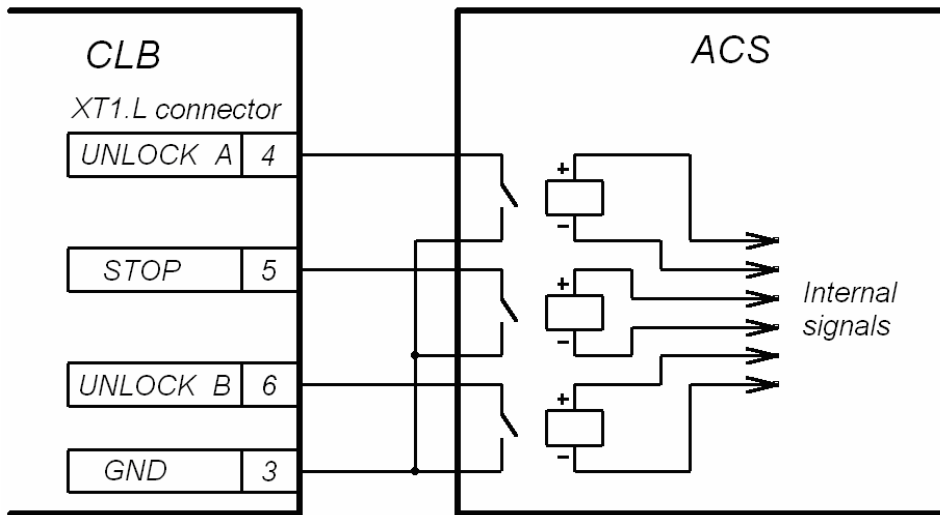

Fig. 5. Control elements of an external device a normally open relay contact
5.4.2 The turnstile is operated by input of a low-level signal to the “XT1.L” connector block contacts “Unlock A”, “Unlock B” and “Stop” relatively to the “GND” contact. As the control element there can be used a normally open relay contact or a circuit with open collector output at that. At the emergency unblocking device input the turnstile control is carried out by elimination of a low-level signal from the “Fire Alarm” contact relatively to the “GND” contact. As the control element there can be used a normally closed relay contact or a circuit with open collector output at that (see Fig. 5 and 6).